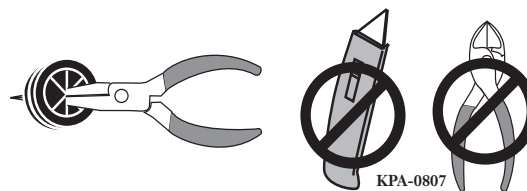

Figure 4 — Pierce Entry Grommet
- Step 4:** Determine cable entry location into the housing and pierce the appropriate entry grommet as illustrated in (Figure 4).